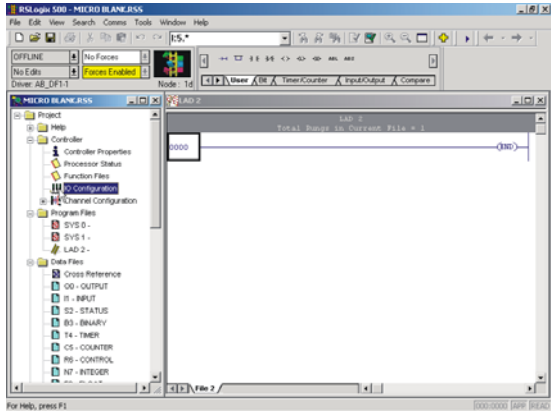

FIG. 4-6 EXPANDING CONTROLLER
- Step 1. Under Project, click on the + next to controller. (See Fig. 4-6)